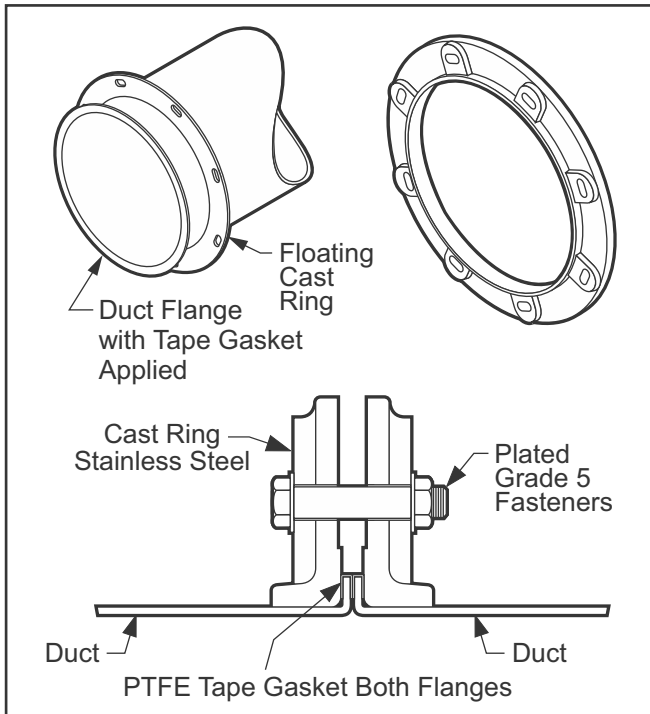

Fig. 3: Floating cast rings 4" - 14"
4"-14" PSP[®] Floating Rings: Duct from 4" to 14" diameter with companion ring joints are manufactured with duct flanges and floating black iron or stainless steel cast rings. (Fig. 3)
6. Install Hardware: Care must be taken not to disturb the gasket during duct positioning. Bring the duct ends directly into place without shifting side to side and start a few bolts on opposite sides of the ring. Check the alignment of the duct sections and when satisfied, install the remaining fasteners. Each plated Grade 5 flanged bolt should be installed with a plated Grade 5 flanged nut. Tighten all fasteners finger tight. (Fig. 3,4,5, & 6)